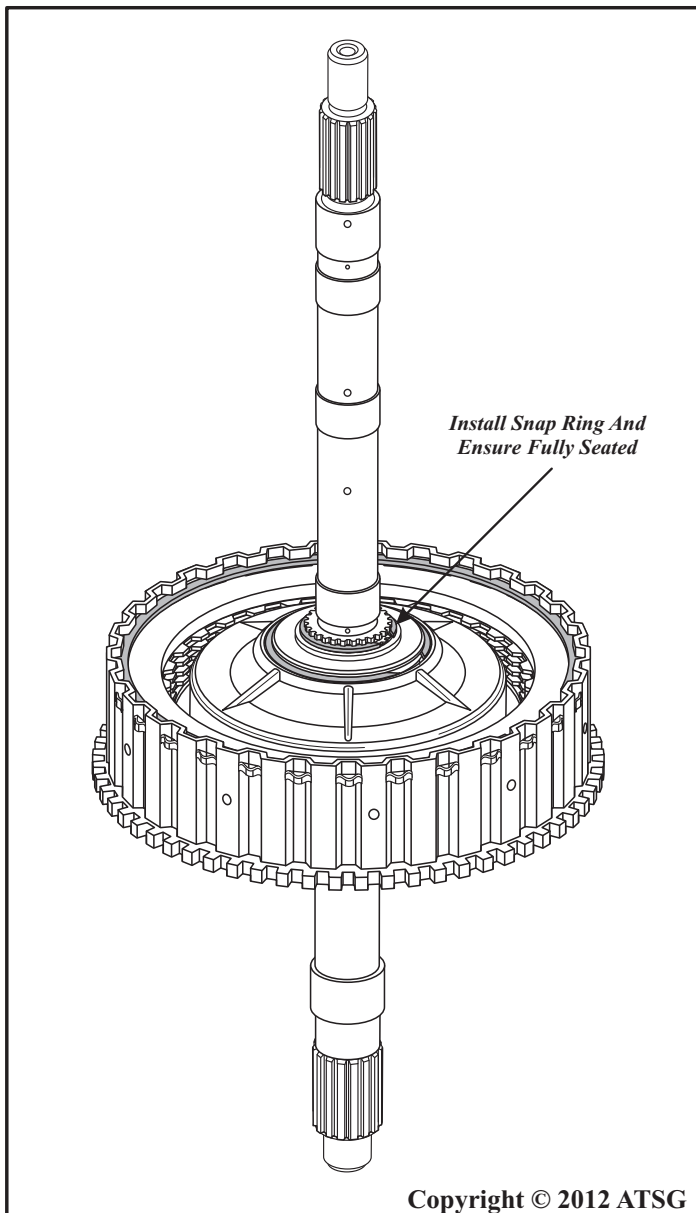

Figure 154
19. Install the turbine shaft through the underdrive clutch housing, as shown in Figure 154, install snap ring and ensure that it is fully seated.